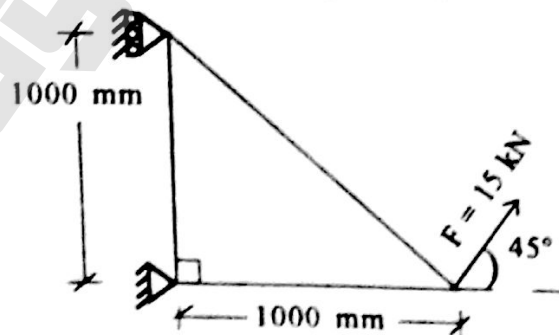

Fig. Q. 8
8. For the truss shown in figure Q. 8 :